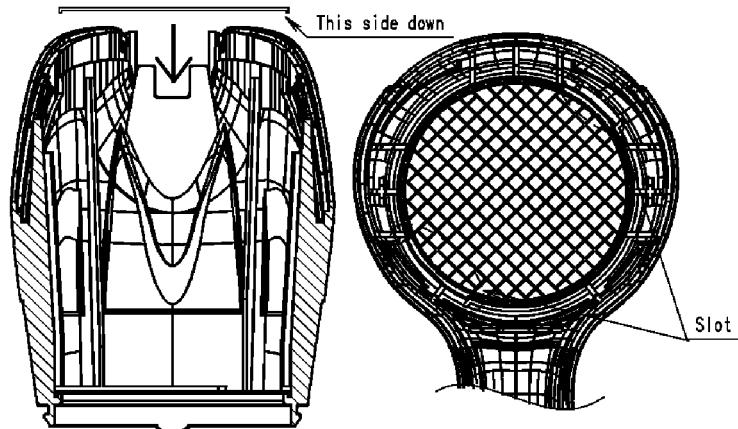

Figure 8
5. Set Air outlet Grill to Housing A by aligning slot of Air outlet grill and Housing A as shown in Figure 8.